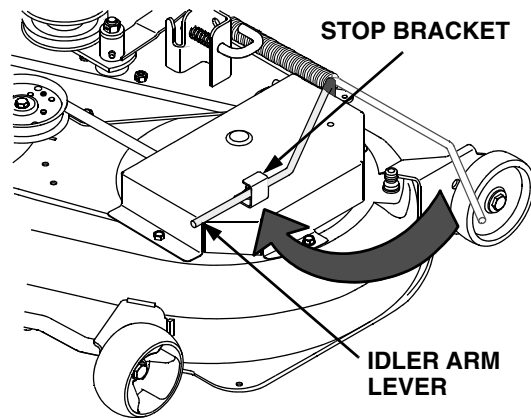

Figure 37
14. While holding the belt in position, rotate the deck idler arm lever into its stop bracket to tension the PTO belt (Refer to Figure 37). Make certain the PTO belt is properly positioned in the PTO clutch pulley and both lower front pulleys. Reposition if necessary.